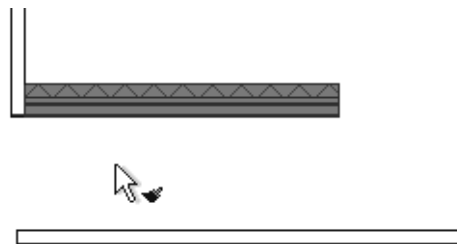

Figure 2–19
2. Select the source element that you want all of the others to match. The paintbrush changes to look as if it has been dipped in black paint as shown in Figure 2–19.